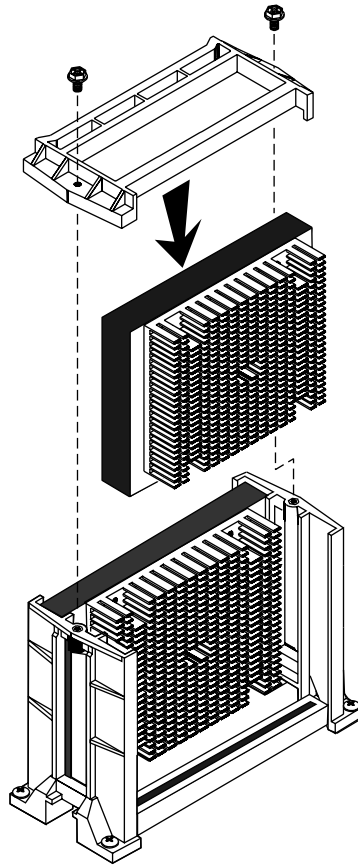

Figure 15: Installing the Second Processor
5. Align the new Pentium II Xeon SEC cartridge into the CPU 2 connector and press it firmly into place. See Figure 15.